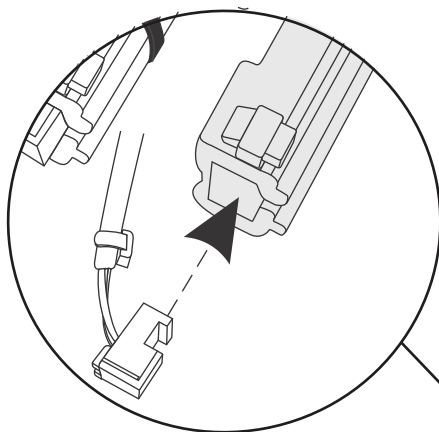

FIGURE 6a
- ❑ LOCATE THE CONTROL PANEL WIRE HARNESS, PLUG THE CORRESPONDING WIRES INTO THE CORRECT SLIDE POT ASSEMBLY AS SHOWN IN FIGURE 6a, BELOW.